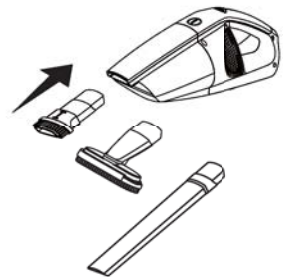

Fig.17
- To clean difficult to reach areas, use the Combination Tool / Long Crevice Tool / Upholstery Brush by inserting end of tool into the handheld vacuum cleaner as shown (Fig.17).